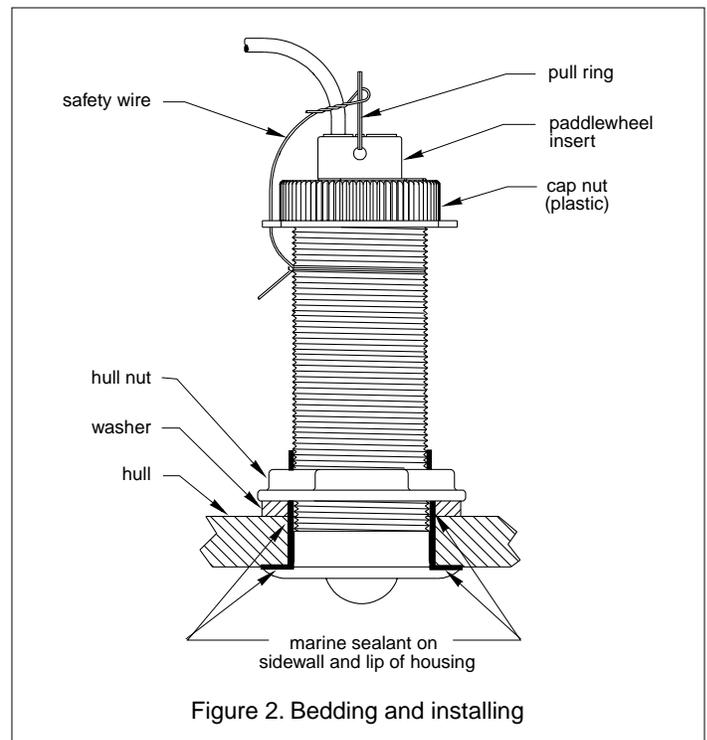

Figure 2. Bedding and installing
Apply a 2mm (1/16") thick layer of marine sealant around the lip of the housing that contacts the hull and up the sidewall of the housing, 6mm (1/4") higher than the combined thickness of the hull, washer, and hull nut (see Figure 2). This will ensure there is sealant in the threads to seal the hull and to hold the hull nut securely in place.
1. From outside the hull, push the housing into the mounting hole using a twisting motion to squeeze out excess sealant (see Figure 2). Align the arrow on the lip of the housing to point forward toward the bow. If the sensor is not installed on the centerline of the boat, angle the housing slightly toward the centerline to align it with the water flow.
5. Slide the cap nut along the cable until it rests on the top of the paddlewheel insert. Attach the pull ring to the insert capturing the cap nut (see Figure 2). Similarly attach the pull ring to the blanking plug capturing the cap nut.
2. Remove the paddlewheel insert from the housing by first removing the safety wire and unscrewing the cap nut (see Figure 2).
2. Remove the paddlewheel insert from the housing (see Figure 2).
pointing forward toward the bow. Seat the plug with a twisting motion until the key fits into the notch. Screw the cap nut in place **HAND-TIGHTENING** only. Do not over-tighten. Reattach the safety wire (see Figure 2).
9. Hold the cap nut on the blanking plug or paddlewheel insert while sliding it into the housing with the arrow on the top pointing forward toward the bow. Seat it into place with a twisting motion until the key fits into the notch. Screw the cap nut in place **HAND-TIGHTENING** only. Do not over-tighten. Reattach the safety wire (see Figure 2).